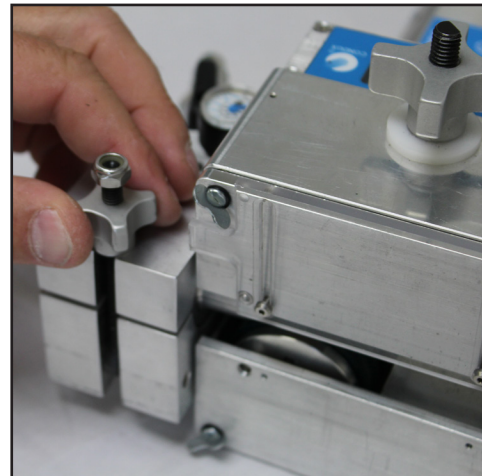

Figure 28. Loosen Knob
2. Loosen the knob on the Air Block assembly and open the air block (See figure 28).